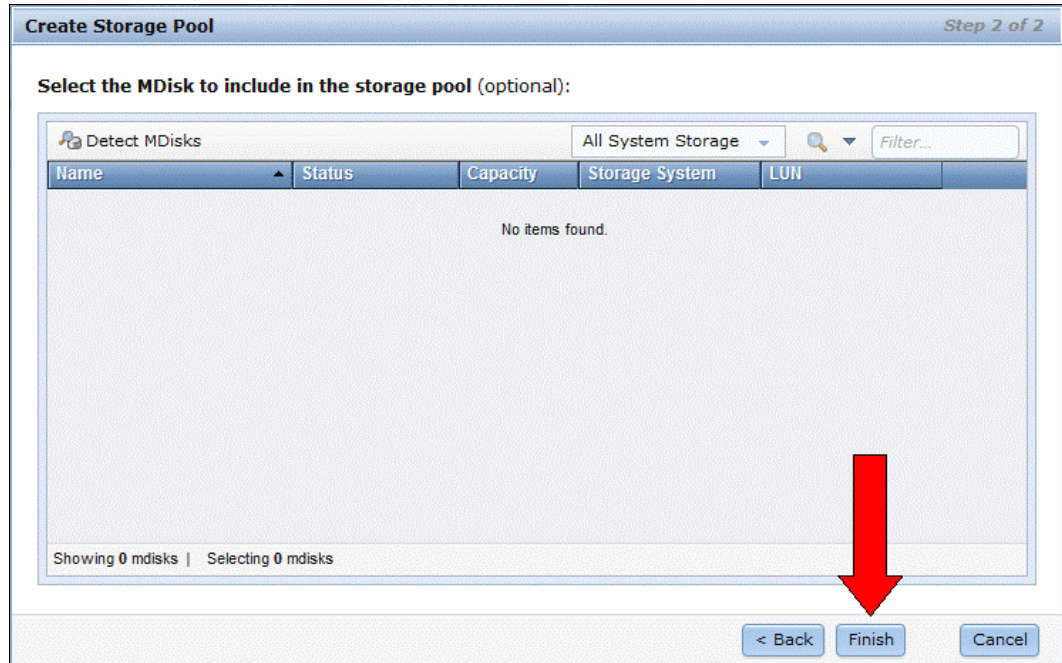

Figure 9-4 Select the MDisk to be included in the pool
3. Click **Next**. If you created your MDisk arrays or use MDisk from external storage, select the MDisk to be included in the pool. Otherwise, click **Finish** to create an empty pool. (Figure 9-4).